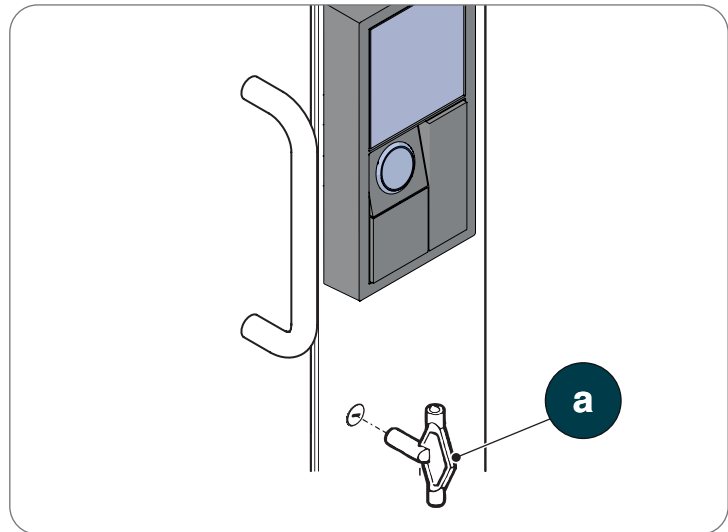

Fig. 7.6
- The key to unlock the doors in an emergency (a, Fig.7.6) can only be used by a specialised technician.